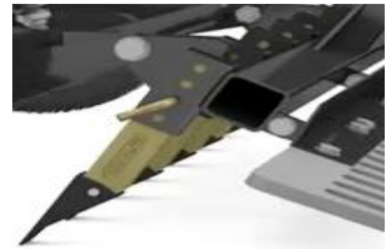

Figure 4
- 2) Note that the scarifier's/profile blade(s) come shipped in the second hole from the top of the scarifier tube. Figure 4 shows the scarifier's in the third hole from the top of the scarifier tube. This is the recommended position for the scarifier's/profile blade(s), and it is easier to make your initial adjustments with the scarifier's/profile blades in these holes. For first time use we strongly recommend using the full basic setup. This ensures that if any problem does arise in the setup it will be easier to adjust and troubleshoot.